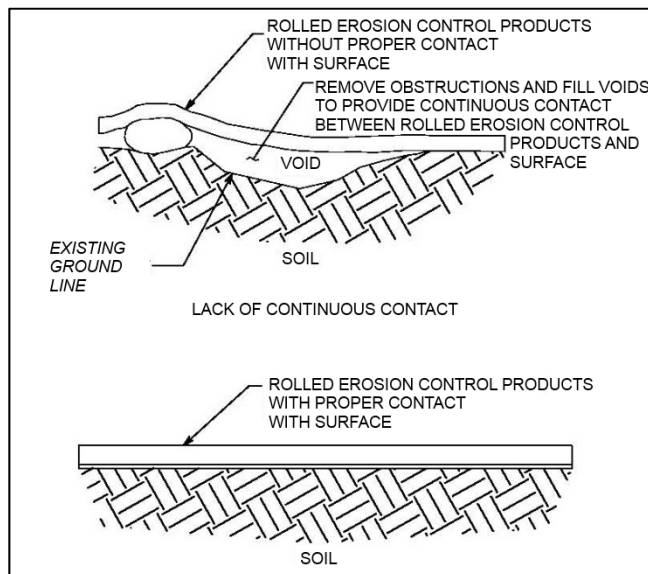

Figure 5: TRM and Soil Contact
- TRM should be placed so that there is intimate contact with the soil surface. See **Figure 5**.